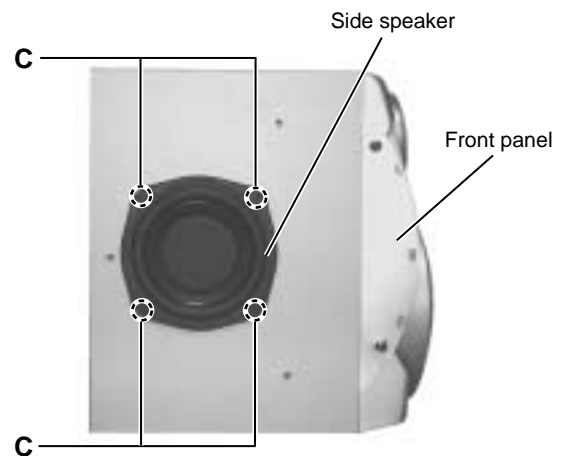

Fig.2
■ Removing the side speaker (See Fig. 2 and 3)